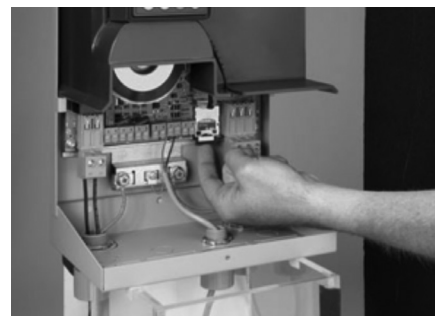

Figure 22 - Software Version
3. Remove the plastic guard from the SD card slot (Figure 22).